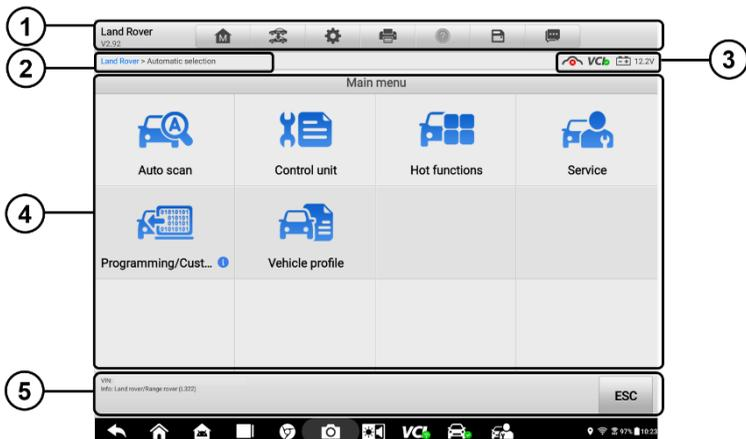

Figure 4-10 Main Menu Screen
1. Tap the **Diagnostics** application button on the MaxiSys Job Menu. Choose the corresponding vehicle information and enter the Main Menu screen (Figure 4-10).